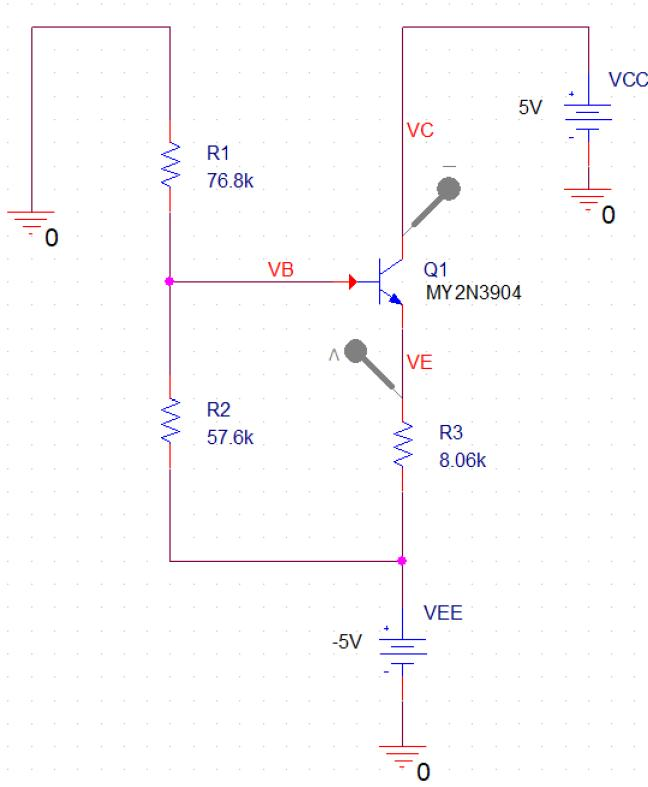
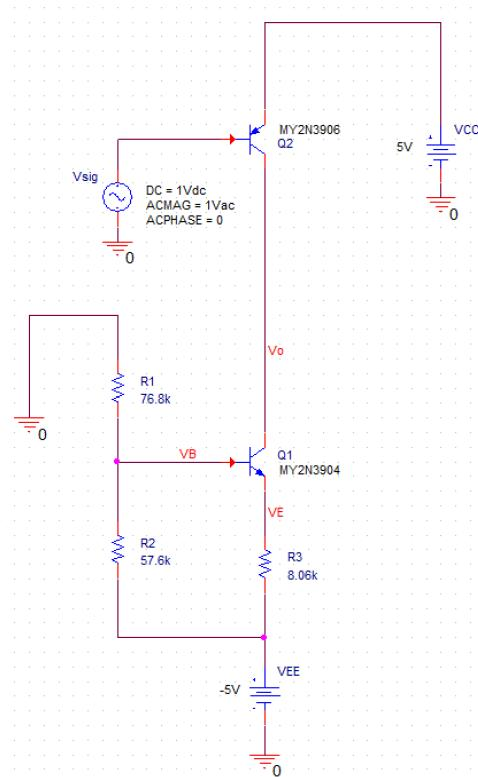
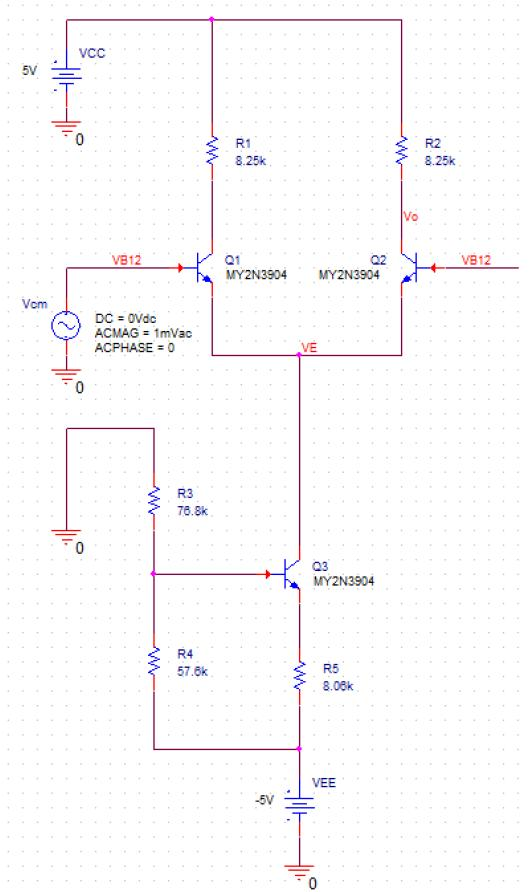

Fig. 1 The schematic diagram for the constant current sink
Fig. 2 Schematic diagram of the common emitter (CE) amplifier
Fig. 4 Schematic diagram of the differential amplifier for common-mode analysis
- 1.1 To characterize the output resistance of a current sink, construct the current sink in PSpice with resistance values and supply voltages, as shown in Fig. 1.
- 1.4 Construct the CE amplifier, as shown in Fig. 2, using a PNP-BJT 2N3906 and the current sink we characterized in Fig. 1. Here, V_{sig} provides the required DC bias for Q_2 and the AC signal applied to the CE amplifier. Double-click V_{sig} in Schematic to open the Property Editor and click Pivot to show the property items vertically. Click the blank field beside the ACPHASE and enter 0 in the data entry field between the New Property tag and the property table. Click on the Display tag and choose Name and Value for ACPHASE. Click  to save the property.
- 1.9 Based on Fig. 1, construct the measurement setup for the constant current sink. Use Wavegen 1 (W1) for VCC and V- for VEE. Connect Scope Ch. 1 Positive (1+) to V_B (the base of Q_1) and Scope Ch. 2 Positive (2+) to V_E (the emitter of Q_1). Connect GNDV+, GNDV-, Scope Ch. 1 Negative (1-), and Scope Ch. 2 Negative (2-) to a common ground.
- 1.14 Based on Fig. 2, construct the measurement setup for the common-emitter (CE) amplifier. Use $V_+ = 5V$ for V_{CC} , $V_- = -5V$ for V_{EE} , and Wavegen 1 (W1) for V_{sig} . Connect GNDV+, GNDV-, and GNDW1 to a common ground line.
- 2.1 As shown in Fig. 4, construct the differential amplifier using two NPN-BJT 2N3904 (Q1 and Q2), two $8.25\text{ k}\Omega$ resistors (R1 and R2), and the current sink characterized in Fig. 1. We first analyze its characteristics for DC common-mode signal V_{CM} , followed by the AC common-mode signal v_{cm} . Here, the source V_{cm} in Fig. 4 provides both V_{CM} and v_{cm} to the differential amplifier.
- 2.4 Based on Fig. 4, construct the measurement setup for the differential amplifier. Use $V_+ = 5V$ for V_{CC} , $V_- = -5V$ for V_{EE} , and Wavegen 1 (W1) for V_{cm} . Connect GNDV+, GNDV-, and GNDW1 to a common ground line.